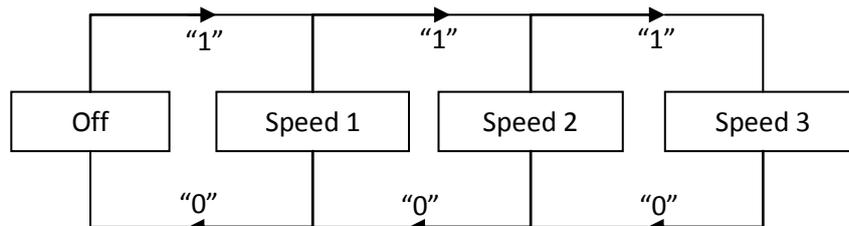
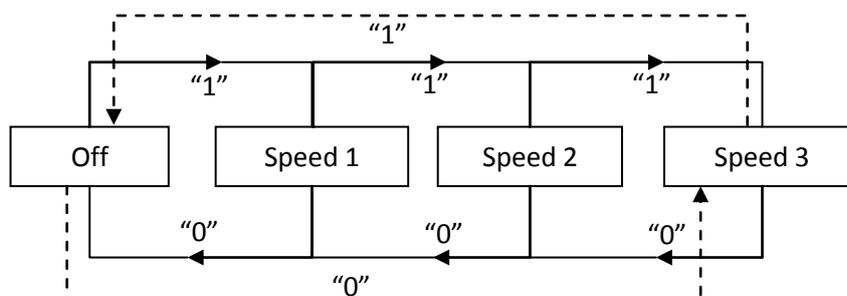

Figure 2.1. Non cyclical manual step control
Figure 2.2. Cyclical manual step control
- **Step control:** the ventilation level/speed is controlled through the 1-bit communication object "Fan Step control", by writing a "1" to increase one level or a "0" to decrease it. This control type can be non cyclical (see figure 2.1) or cyclical (figure 2.2)..